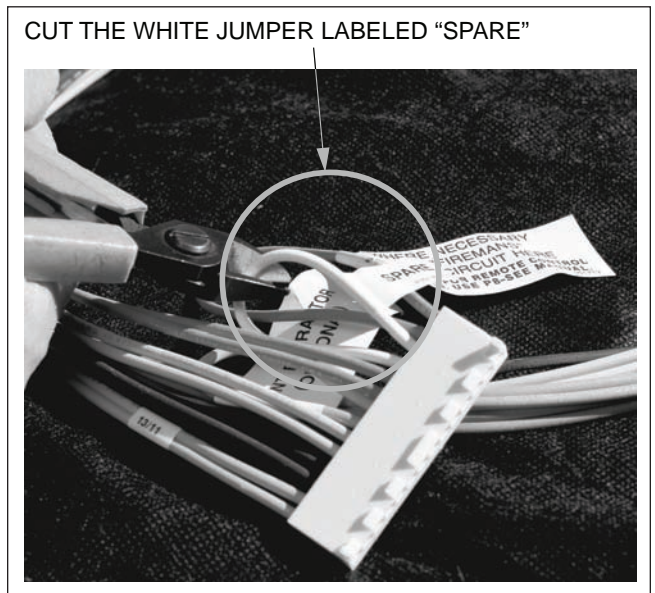

Fig 3: Cutting the Jumper Wire
17. Cut the white "spare" jumper located on the back of the circuit board in the upper control panel. See Fig. 3.